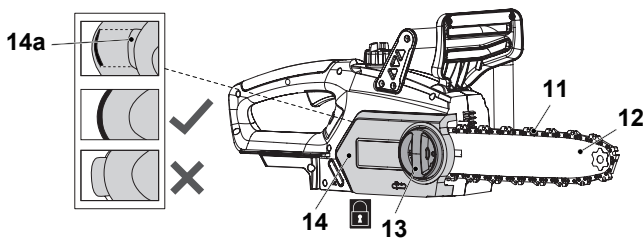

Fig. 6
8. Refit the chain saw cover (14) and slightly tighten the locking wheel (13) clockwise (Fig. 6). Ensure that the spigot (14a) engages correctly in the slot. Do not tighten the locking wheel (13) completely as saw chain tensioning is required first.